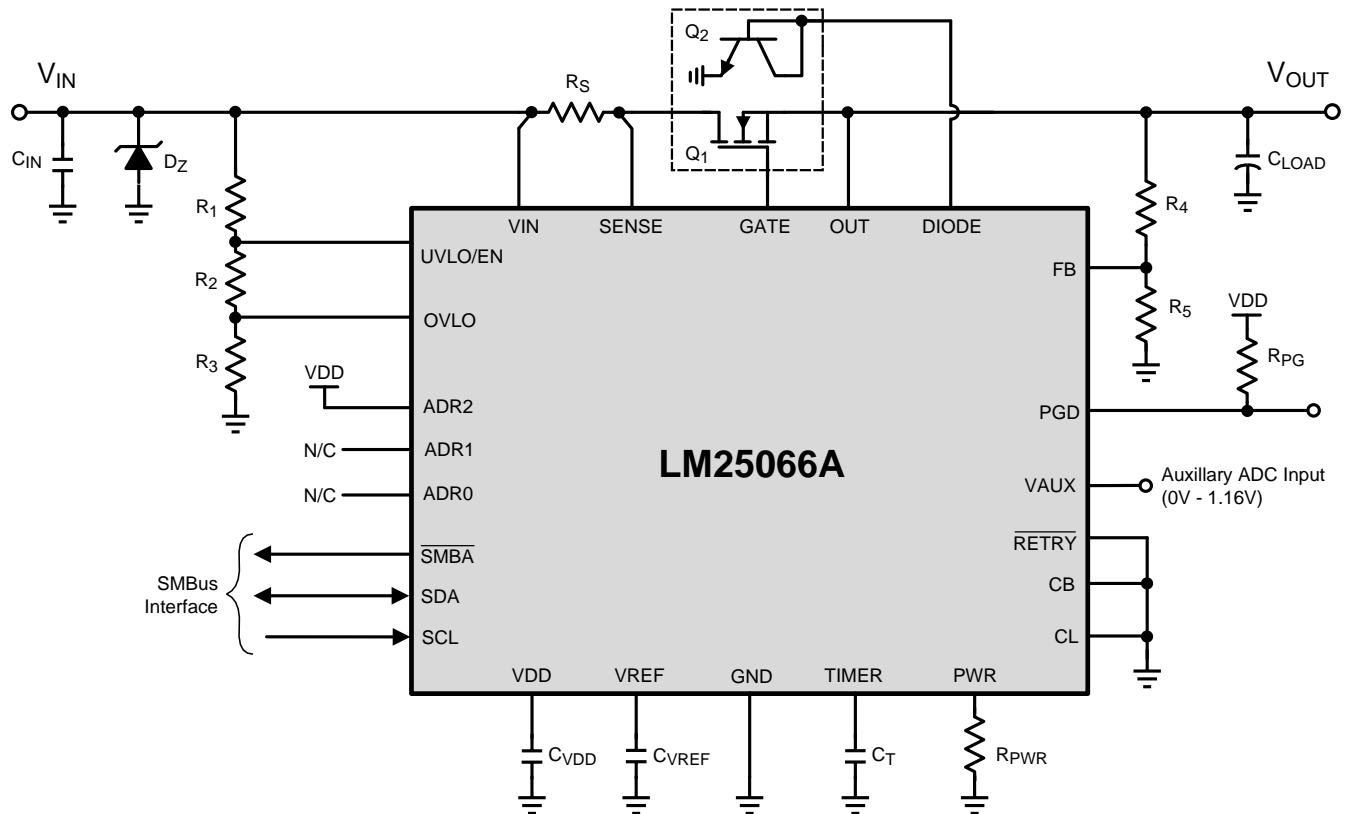
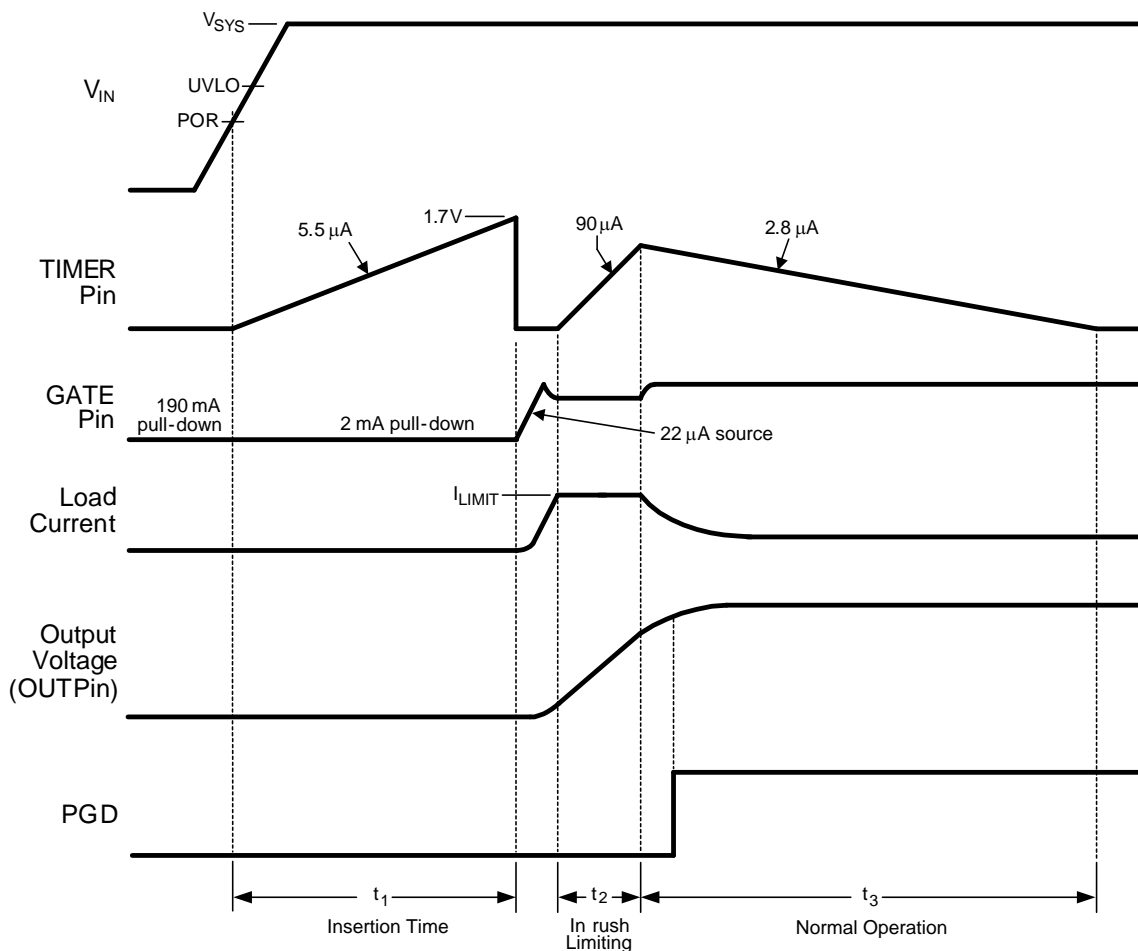

Figure 32. Typical Application Circuit
Figure 33. Power Up Sequence (Current Limit Only)
The VIN operating range of the LM25066A is +2.9V to +17V with transient capability to +24V. Referring to Figure 32 and Figure 33, as the voltage at VIN initially increases, the external N-channel MOSFET (Q₁) is held off by an internal 190 mA pull-down current at the GATE pin. The strong pull-down current at the GATE pin prevents an inadvertent turn-on as the MOSFET's gate-to-drain (Miller) capacitance is charged. Additionally, the TIMER pin is initially held at ground. When the VIN voltage reaches the POR threshold, the insertion time begins. During the insertion time, the capacitor at the TIMER pin (C_T) is charged by a 5.5 μA current source and Q₁ is held off by a 2 mA pull-down current at the GATE pin regardless of the input voltage. The insertion time delay allows ringing and transients at VIN to settle before Q₁ is enabled. The insertion time ends when the TIMER pin voltage reaches 1.7V. C_T is then quickly discharged by an internal 1.9 mA pull-down current. The GATE pin then switches on Q₁ when the input voltage, V_{SYS}, exceeds the UVLO threshold. If V_{SYS} is above the UVLO threshold at the end of the insertion time, Q₁ switches on at that time. The GATE pin charge pump sources 22 μA to charge the gate capacitance of Q₁. The maximum voltage at the GATE pin with respect to ground is limited by an internal 18.8V zener diode.
As the voltage at the OUT pin increases, the LM25066A monitors the drain current and power dissipation of MOSFET Q₁. Inrush current limiting and/or power limiting circuits actively control the current delivered to the load. During the inrush limiting interval (t₂ in Figure 33), an internal 90 μA fault timer current source charges C_T. If Q₁'s power dissipation and the input current reduce below their respective limiting thresholds before the TIMER pin reaches 1.7V, the 90 μA current source is switched off and C_T is discharged by the internal 2.8 μA current sink (t₃ in Figure 33). The PGD pin switches high when the voltage at FB exceeds its rising threshold of 1.167V.
A charge pump provides the voltage at the GATE pin to enhance the N-Channel MOSFET's gate. During normal operating conditions (t_3 in Figure 33), the gate of Q_1 is held charged by an internal 22 μA current source. The voltage at the GATE pin (with respect to ground) is limited by an internal 18.8 V zener diode. See the graph "GATE Pin Voltage" provided previously. Since the gate-to-source voltage applied to Q_1 could be as high as 18.8 V during various conditions, a zener diode with the appropriate voltage rating must be added between the GATE and OUT pins if the maximum V_{GS} rating of the selected MOSFET is less than 18.8 V. The external zener diode must have a forward current rating of at least 190 mA. When the system voltage is initially applied, the GATE pin is held low by a 190 mA pull-down current. This helps prevent an inadvertent turn-on of the MOSFET through its drain-gate capacitance as the applied system voltage increases.
During the insertion time (t_1 in Figure 33), the GATE pin is held low by a 2 mA pull-down current. This maintains Q_1 in the off-state until the end of t_1 , regardless of the voltage at V_{IN} or $UVLO$. Following the insertion time, during t_2 in Figure 33, the gate voltage of Q_1 is controlled to keep the current or power dissipation level from exceeding the programmed levels. While in the current or power limiting mode, the TIMER pin capacitor is charging. If the current and power limiting cease before the TIMER pin reaches 1.7V, the TIMER pin capacitor
A) Insertion Delay -Upon applying the system voltage (V_{SYS}) to the circuit, the external MOSFET (Q_1) is held off during the insertion time (t_1 in Figure 33) to allow ringing and transients at V_{SYS} to settle. Since each backplane's response to a circuit card plug-in is unique, the worst case settling time must be determined for each application. The insertion time starts when V_{IN} reaches the POR threshold, at which time the internal 5.5 μA current source charges C_T from 0V to 1.7V. The required capacitor value is calculated from: